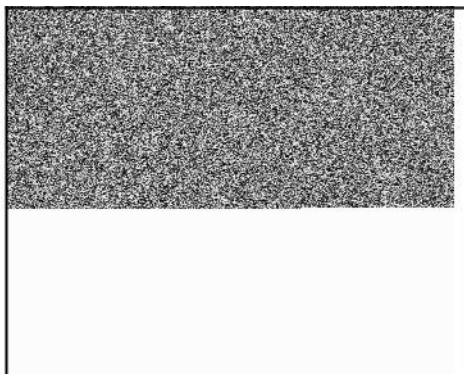

Figure 3
4. Remove dipstick and oil fill tube (A, Figure 3).
5. Unscrew and remove blower housing/rewind assembly (B).